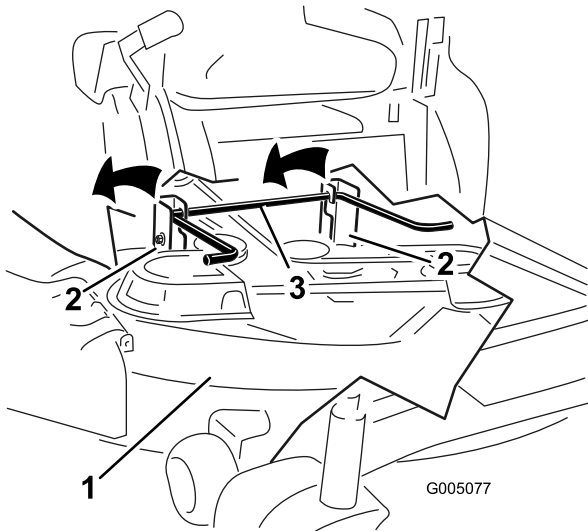

Figure 59
- 6. Lift the mower deck and hanger brackets clear of the rear lift rod and lower the mower carefully to the ground (Figure 59).
- 5. Lift the rear of the mower deck and guide the hanger brackets over the rear lift rod (Figure 59).